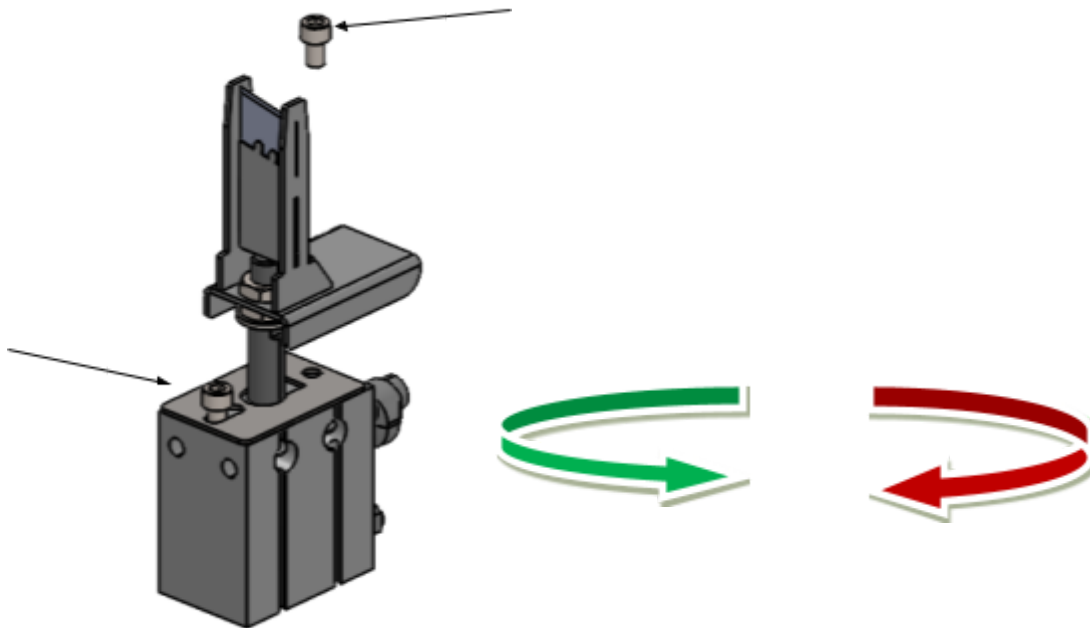

Figure 11
Step 3: Pull the cylinder out completely. Unscrew the back Allen screw completely from the cylinder and only loosen the front screw (see figure 11).
Step 7: Slide the key plate back, pull out the piston rod and tighten the hexagon socket head screws again (figure 11).